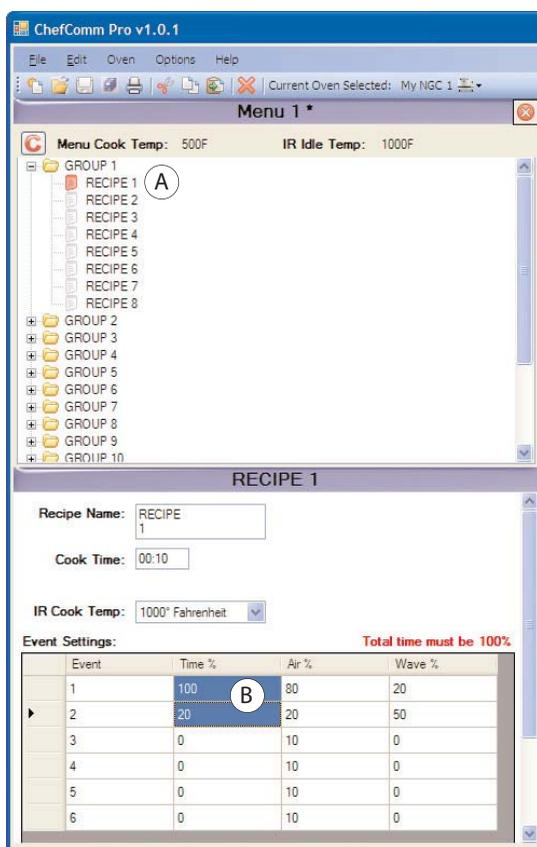

Figure 48: Invalid Recipe Settings
- The sum of percent time settings must be equal to 100 (see example in Figure 48, Item B)
To correct the problem, expand each group to view any recipes flagged in red (Figure 48, Item A), which indicates invalid settings are present. Correct the settings, per the conditions above.
1. Verify the sum of percent time equals 100 (Figure 48, Item B).